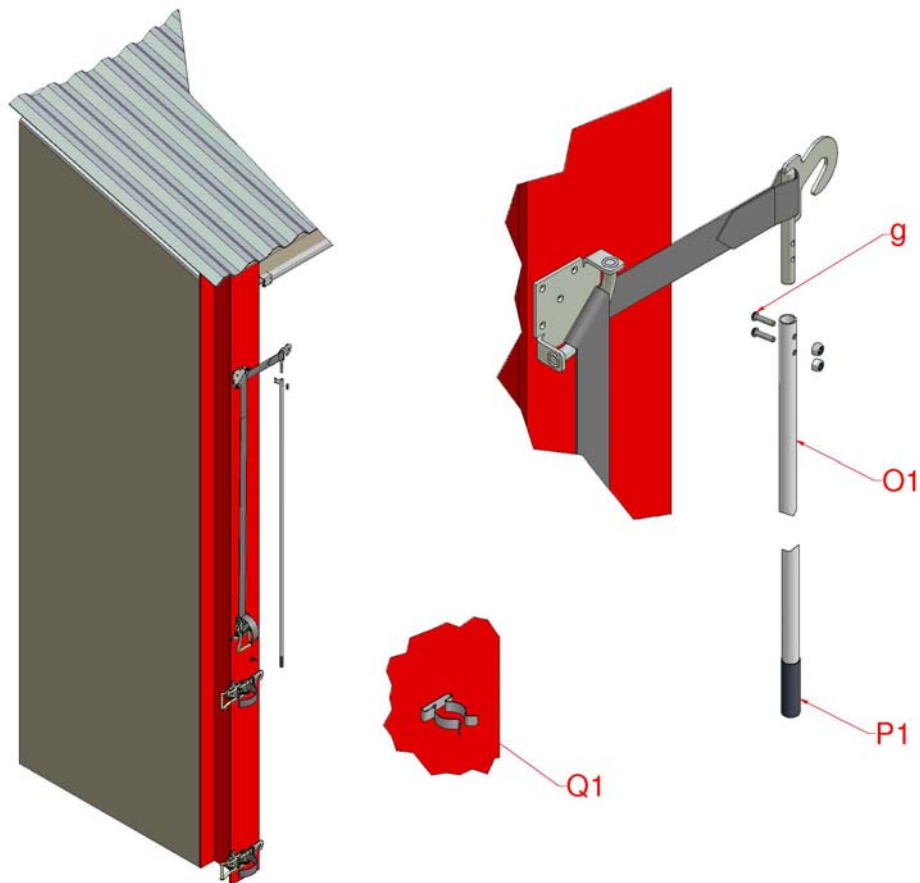

Figure 8, Extension Handle
- 10.2 Fix the aluminium extension handle (O1) to the pinned snap hook (M2) with the M6x25mm button screws (g) supplied. Ensure the nyloc nuts face outwards. Cut the extension pole to the appropriate length and push on the black handle grip (P1), Figure 8. Fit the pole retaining clip (Q1) to the building to hold the extension handle in place when not in use